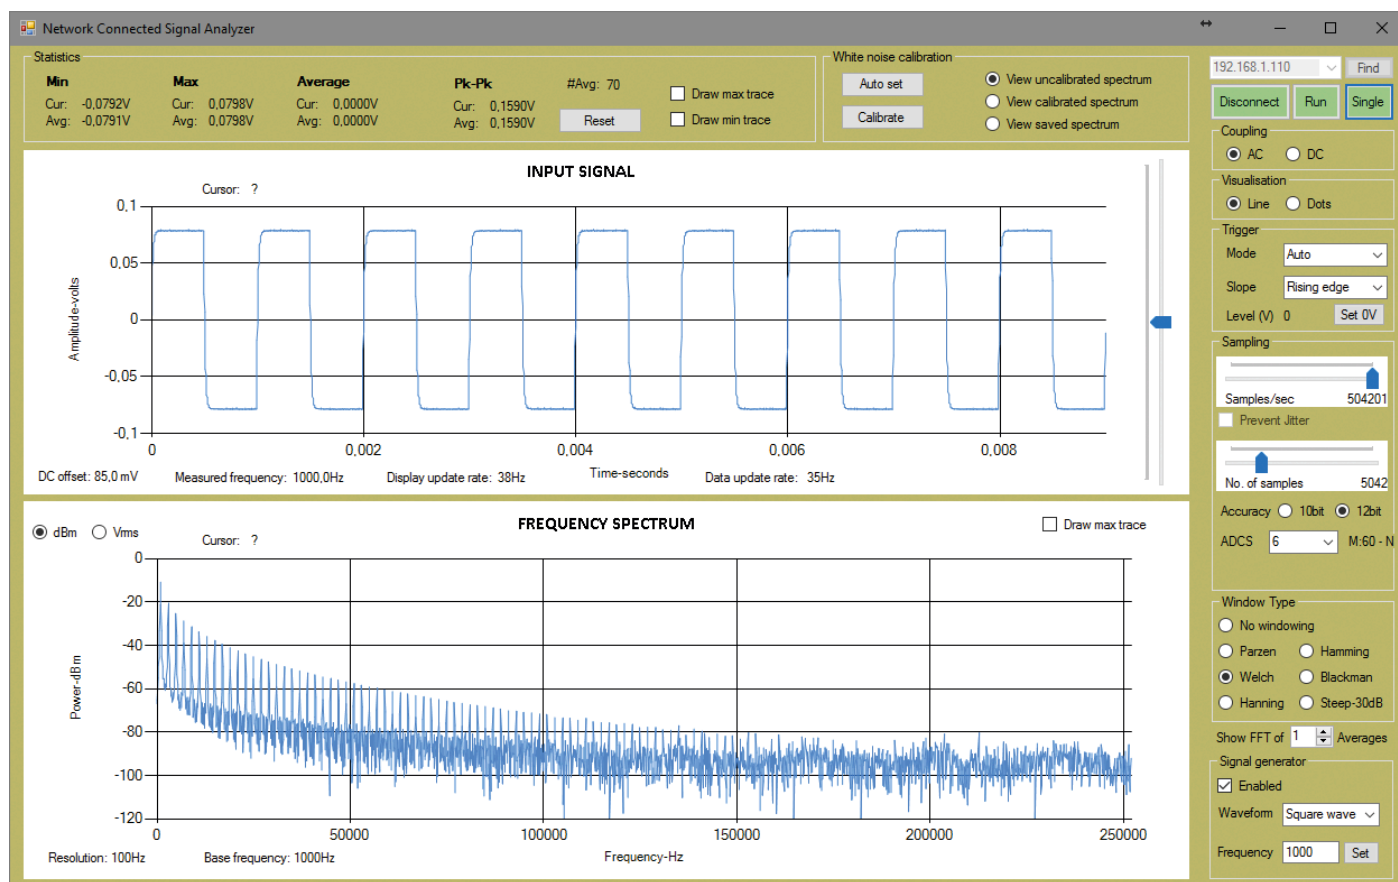

Figure 1. The new and improved network-connected signal analyzer user interface (UI).
Let's walk through the new user interface (UI) of the NCSA. **Figure 1** shows a typical example.